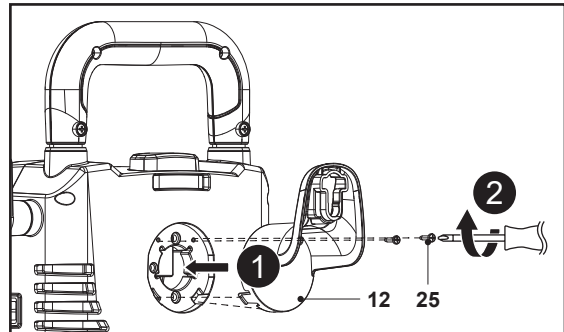

Fig. 2a
2. Insert the two clips of the pressure hose bracket (12) into the slots of its rest and align the mounting holes on them, then use a suitable cross-head screwdriver (not supplied) to secure the connection with the two screws (ST3.5 x 13) (25) (Fig. 2a).